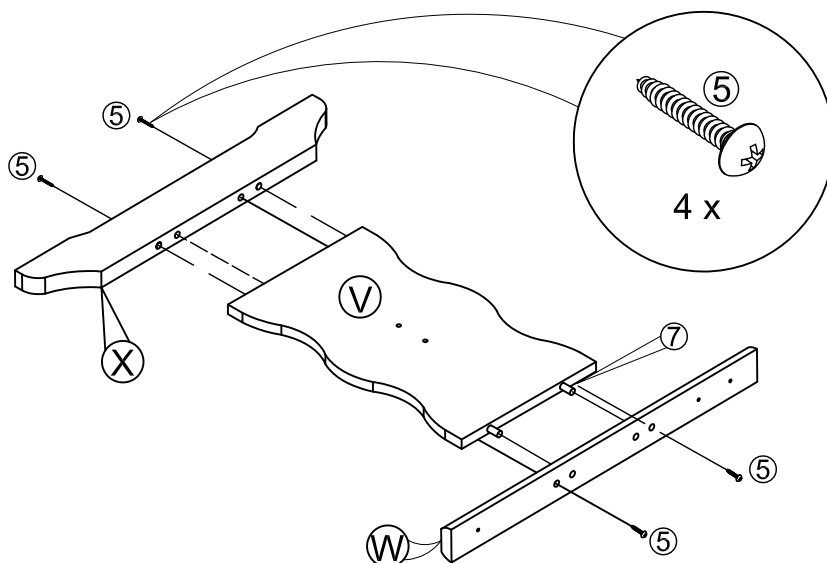

FIGURE 2
- 2.1 ATTACH LEG BASE #X TO LEG #V THROUGH FITTING DOWELS LOCATED ON LOWER END OF LEG#V INTO HOLES LOCATED ON UPPER EDGE OF BASE #X AS GUIDE, SECURE CONNECTION WITH (02) SCREWS ⑤ DRIVEN WITH PHILLIPS HEAD SCREW DRIVER (NOT ATTACHED). AS SHOWN IN FIGURE 2. REPEAT PROCEDURE FOR SECOND LEG #V.
- 2.2 ATTACH TABLE TOP SUPPORT #W TO LEG #V FITTING THE DOWELS LOCATED ON UPPER END OF LEG #V INTO HOLES LOCATED ON SUPPORT #W. USING PRE-DRILLED HOLES AS GUIDE, SECURE CONNECTION WITH (02) SCREWS ⑤ DRIVEN WITH PHILLIPS HEAD SCREW DRIVER (NOT ATTACHED). AS SHOWN IN FIGURE 2. REPEAT PROCEDURE FOR SECOND TOP SUPPORT #W.